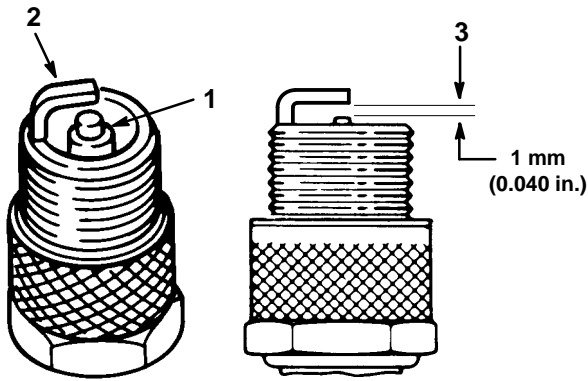

Figure 18
1. Look at the center of the spark plug(s) (Fig. 18). If you see light brown or gray on the insulator, the engine is operating properly. A black coating on the insulator usually means the air cleaner is dirty.
2. Check the gap between the center and side electrodes (Fig. 18). Bend the side electrode (Fig. 18) if the gap is not correct.